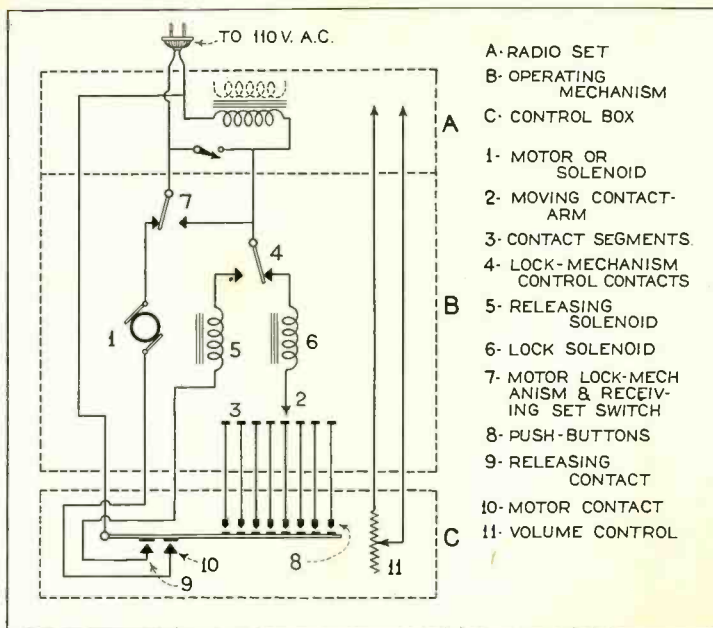

Fig. 4. Schematic diagram, and legend, of the remote tuning control. Contact 10 is the "off" push-button on the station selector control box. See Fig. 3.
A more accurate idea of the operation can be obtained from the schematic diagram of Fig. 4.
Contact (10), in Fig. 4, is the "off" button. Pressing this button turns off the radio set and returns the control mechanism to normal position.